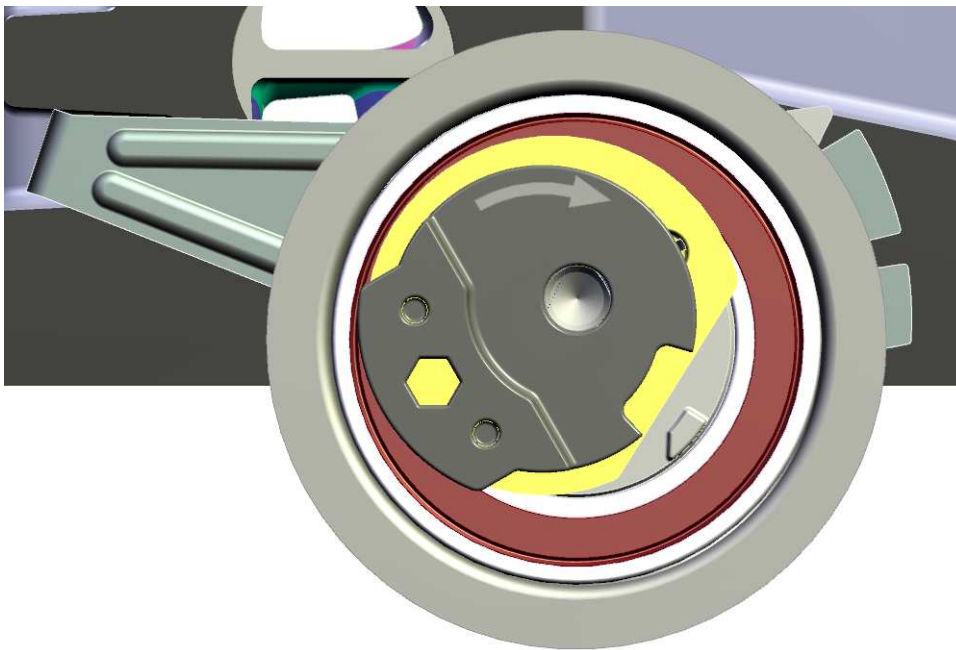

Figure 1 Initial installation position of Timing Belt Tensioner
2. Position the Timing Belt Tensioner and the mounting bolt. The hook-up tab of the tensioner must locate into the hook-up slot of the cylinder head as shown in Figure 1.
3. The installation shaft on the tensioner should be in position shown in Figure 1. This will maximize the belt clearance for ease of installation. If necessary rotate installation shaft using a 6mm Hex Allen Key to achieve this position.